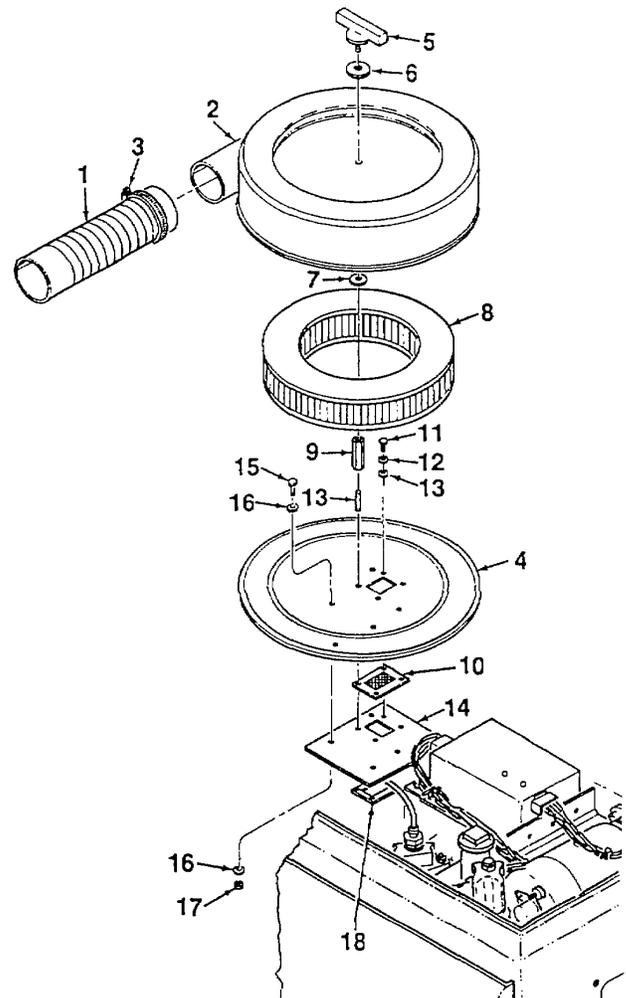

Figure 4-33. Engine Air Filter
2. Disconnect engine air hose (1, Figure 4-33) from air duct on inside wall of APU enclosure.
3. Release filter cover (2) from filter base (4) by unscrewing wing screw assembly (5).
4. Remove filter cover (2) and filter (8) from filter base (4). Remove wing screw assembly (5), washer (6), and retainer (7) only if replacement is required.
5. Remove filter base (4), backing plate (14), and gasket (18) by removing nut (9), three bolts (11), and three lockwashers (12). Remove set screw (13).
6. If replacement of intake guard (10) is required, remove filter base (4) from backing plate (14) by removing three screws (15), six washers (16), and three nuts (17).
Screws (15, Figure 4-33) are installed from different sides of the filter base. Screw in rear hole mounts from the top of the filter base. Two screws in front holes mount from below the filter base.